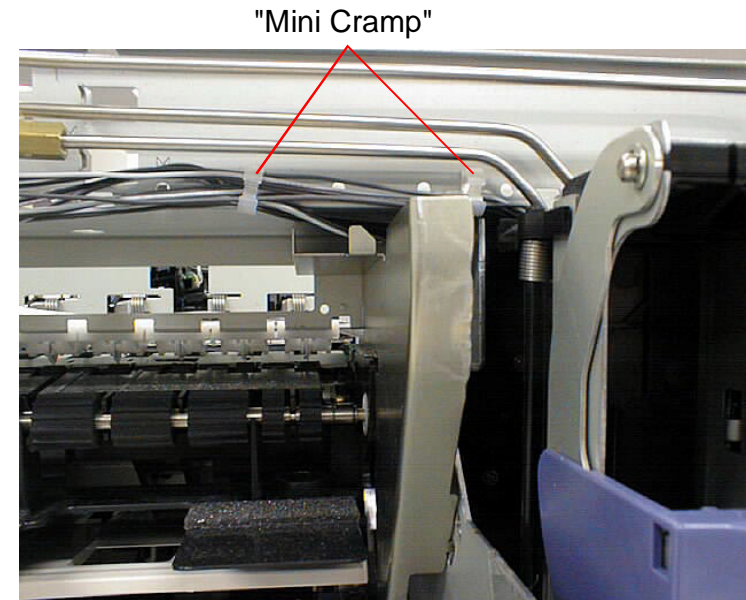

Figure 4-45. Releasing Harness at the front side of "Frame, Main, Paper Eject"
10. Release various harness from 3 "Mini-cramp(small cramp)"s located at the front side of "Frame, Main, Paper Eject". (Refer to Figure4-45)